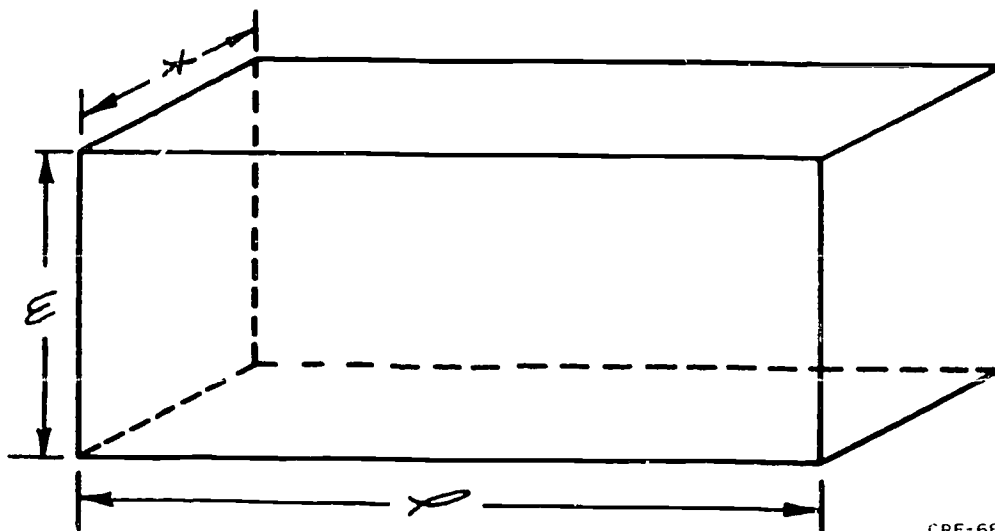

Figure 3-17. Rectangular prism.
**Prisms.** A prism such as that shown in figure 3-17 is a solid whose ends are equal parallel polygons and whose sides (faces) are parallelograms. Remember that polygons, as well as parallelograms, can have several shapes. Therefore, you will find that prisms can be of various shapes and still comply with the definition. For example, figure 3-17 illustrates a rectangular prism. Others include triangular prisms whose ends are triangles, hexagonal prisms whose ends are hexagons, etc.
The rectangular prism shown in figure 3-17 has ends (bases) that are square; however, rectangular prisms may also have ends of other rectangular shapes if all angles are right angles and the opposite surfaces are parallel. To determine the volume of a rectangular prism, simply multiply the length times the width times the thickness ( $V = lwt$ ). For example, if a rectangular prism has the dimensions of  $l = 10$  inches,  $w = 5$  inches, and  $t = 5$  inches, the volume will be  $10 \times 5 \times 5 = 250$  cubic inches.